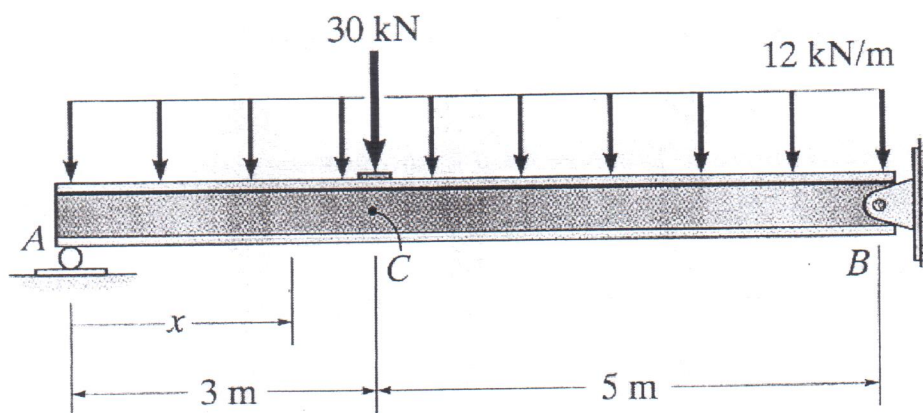

Figure 7.
- (7) For the beam shown in **Figure 7** determine the slopes at **A** and **B** and the displacement at **C**. EI is constant.